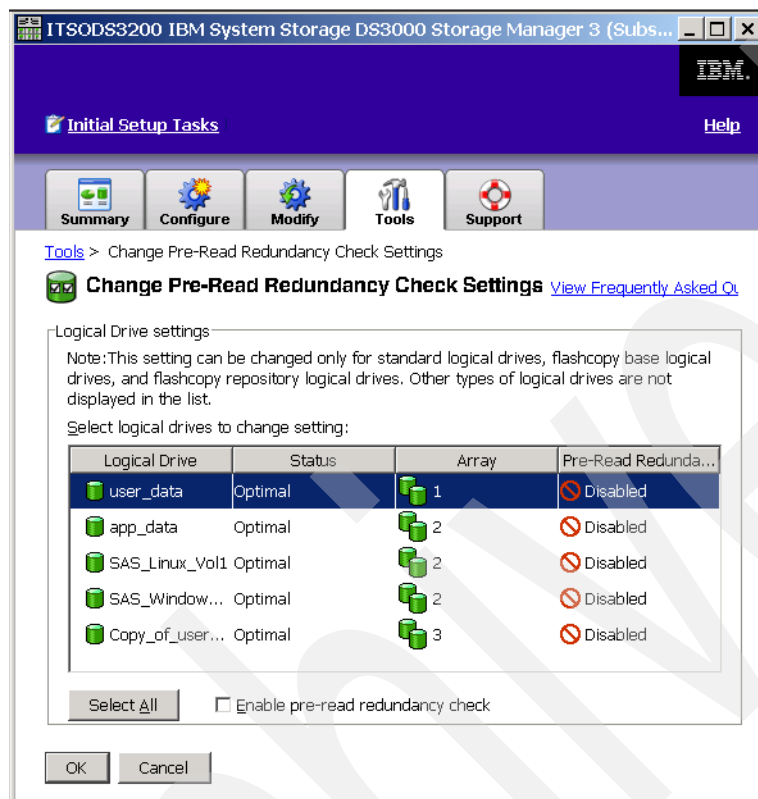

Figure 12-25 Change Pre-Read Redundancy Check Settings
1. Click **Change Pre-Read Redundancy Check Settings** in the Tools tab (Figure 12-1 on page 258) to open the associated window (Figure 12-25).